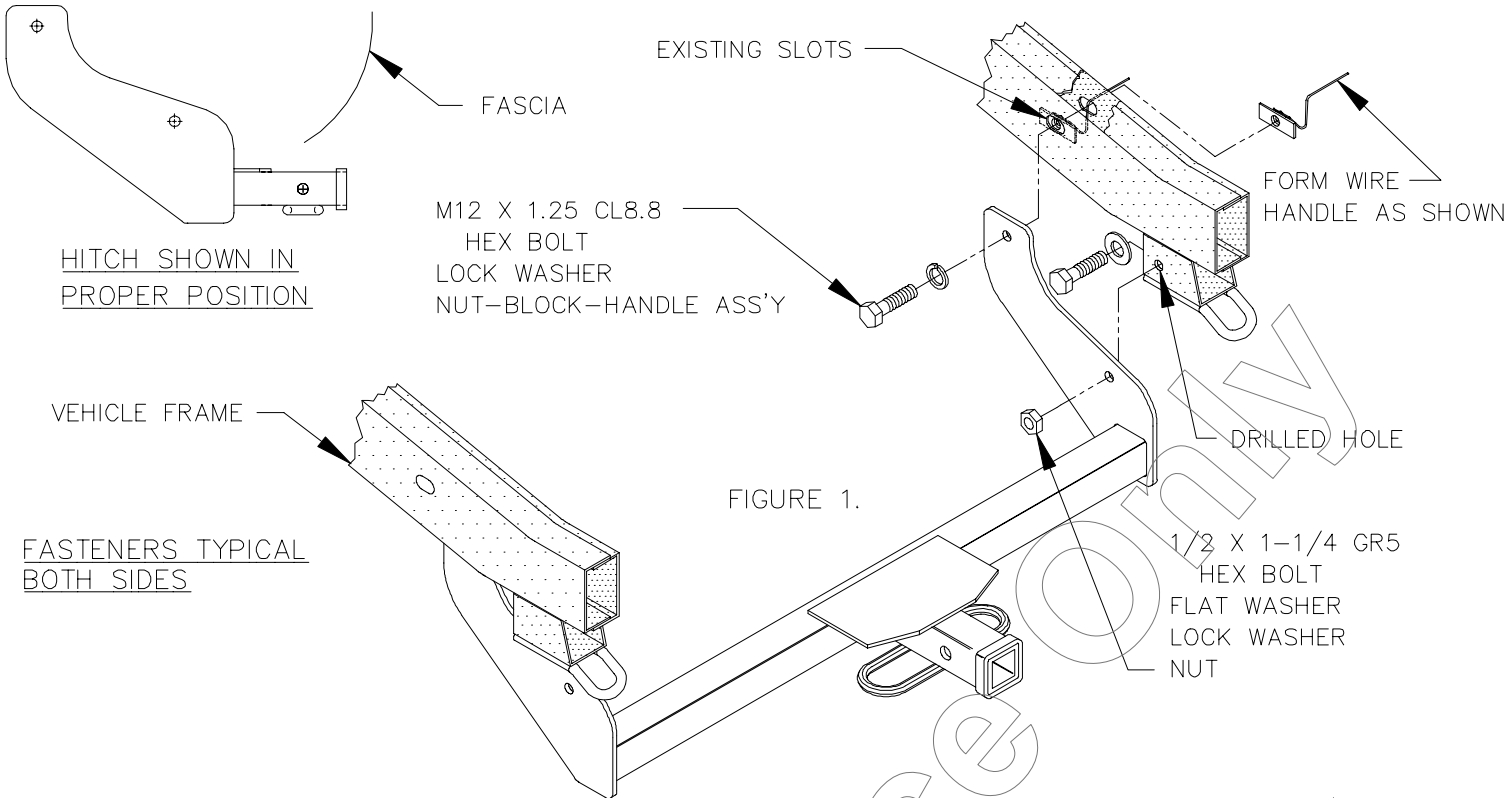

FIGURE 1.
2. FEED NUT-BLOCK-HANDLE ASSEMBLIES THROUGH OUTER SLOT IN FRAME AND LOOSELY INSTALL 12mm HEX BOLTS THROUGH SIDE BRACKET AND INNER SLOT IN FRAME AS SHOWN IN FIGURE 1.
3. RAISE HITCH INTO POSITION SO THAT RECEIVER IS LEVEL WITH VEHICLE. HOLE IN HITCH SHOULD BE NEAR CENTER OF THE DOWN LOOP EXTENSION. SEE FIGURE 1.
5. INSTALL 1/2" HEX BOLTS THROUGH SIDE BRACKET AND DRILLED HOLES AS SHOWN IN FIGURE 1.